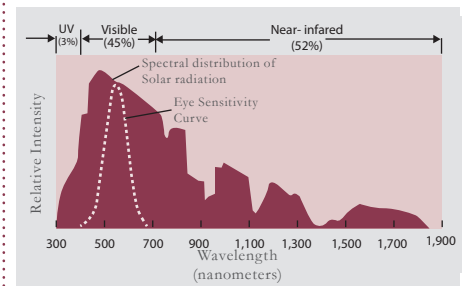

Fig. 9: Solar Spectrum
owners and users. Once these factors are identified, a designer can then apply the appropriate technology to address them. The three components of the solar radiation are: Ultra-Violet (UV), Visible, and Near-Infrared (NIR)- Fig. 9. While half of this energy is invisible, either in the UV or NIR, it must still be considered in the selection of glazing. Standard, untreated glass is naturally transparent to 85 percent of the UV, Visible, and NIR rays, but selective glazing has the ability to distinguish visible from invisible energy in ways that decrease solar heat gain while maintaining daylight transmittance and vice-versa.